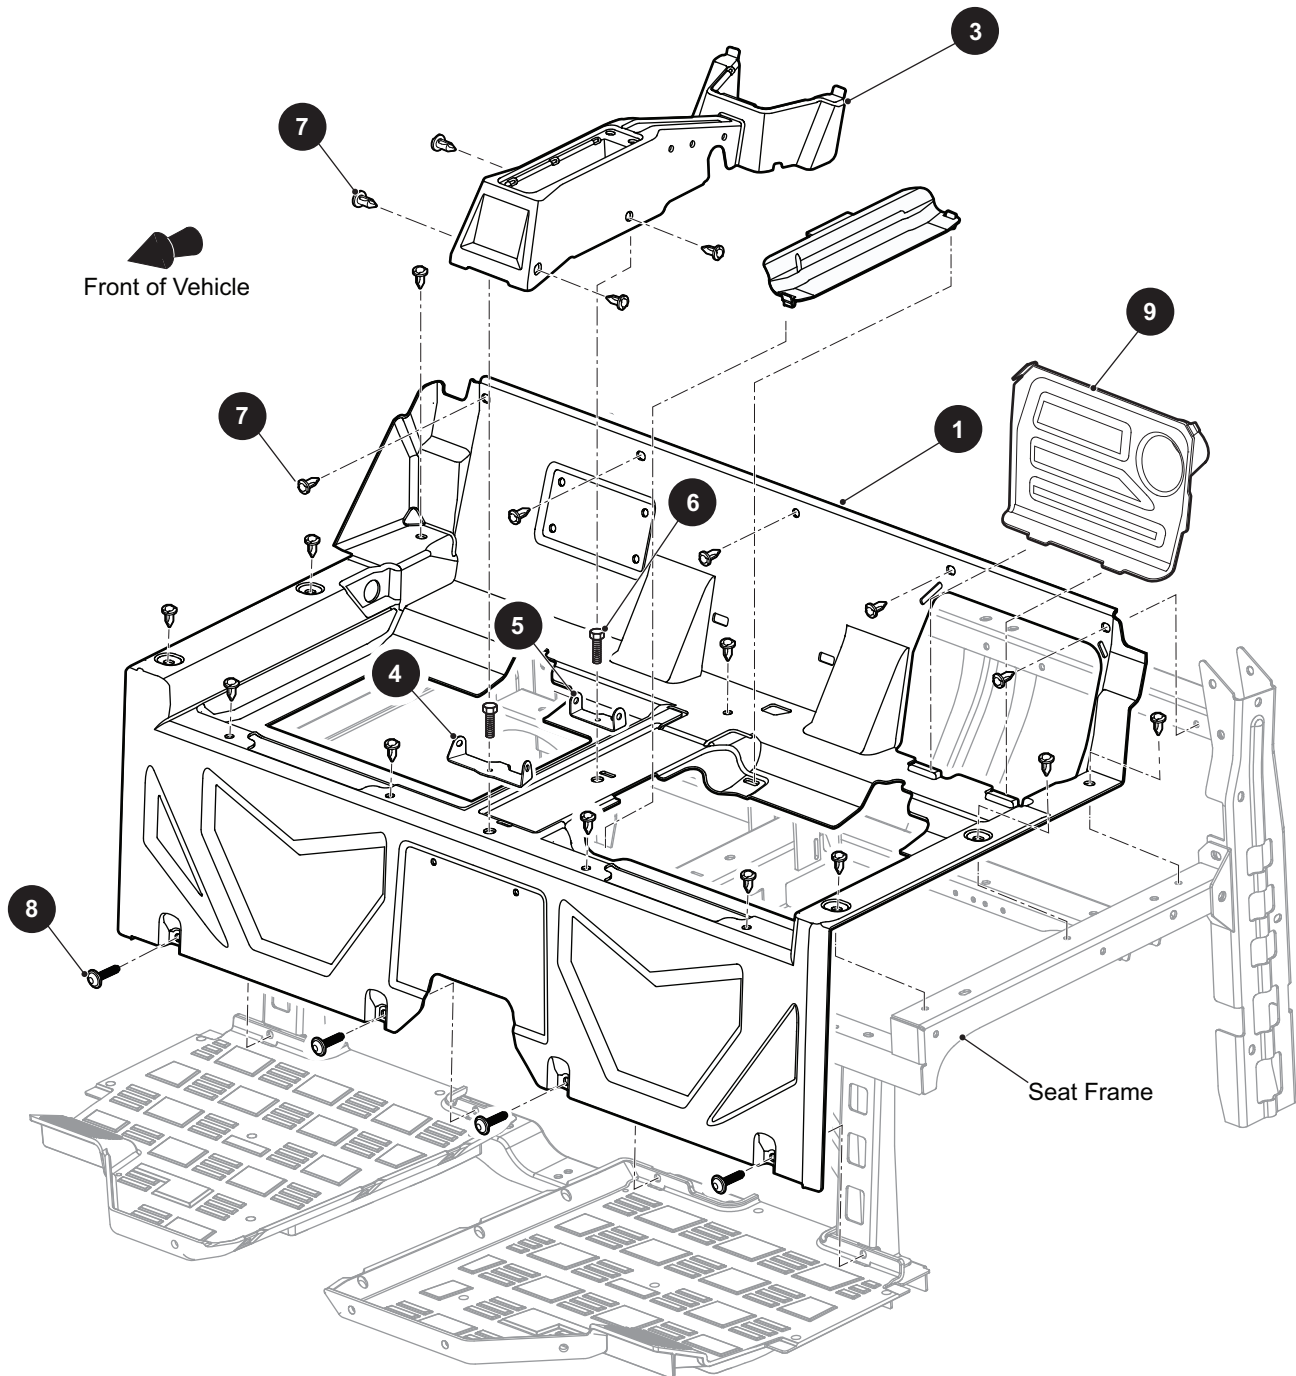

Fig. 13 Seat Closeout Panel and Center Console
1. Remove the plastic rivets (7) that secure the center console (3) to the front and rear brackets (4, 5) (See Fig. 13).
1. Open the air filter access panel (9) by pulling forward on the top portion of the panel (See Fig. 13).
3. Remove the bolts (6) that secure center console mounting brackets (4, 5) to the seat frame (See Fig. 13). Remove brackets.
4. Remove the plastic rivets (7) that secure the seat closeout panel (1) to the seat frame.
6. Remove the bolts (8) that secure the bottom of the closeout panel to the bottom of the seat frame.